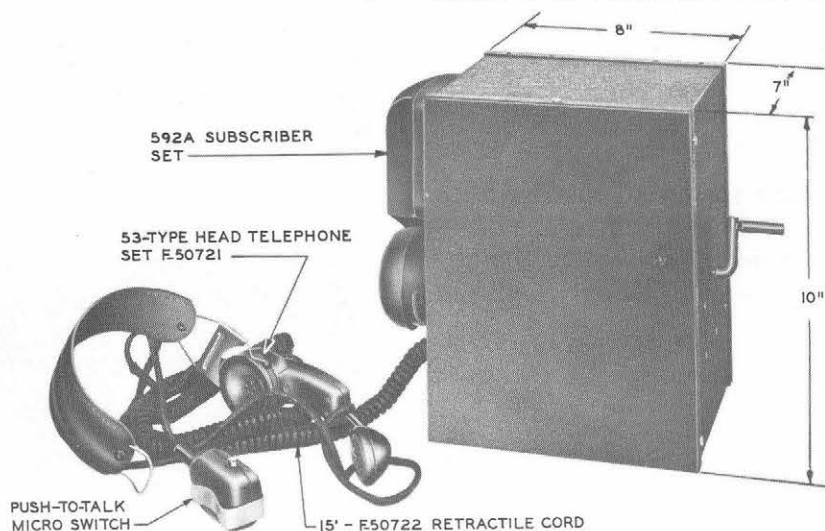

Fig. 1 — F-50682 Telephone Set
2.01 This set is used by ground observer posts for transmitting calls over private line facilities to the Air Force Filter Centers (see Fig. 1). It consists essentially of an 8- by 7-inch black finished, metal box in which is mounted a KS-13766 hand generator having a crank shaft which projects through the right side of the box; a 274L and a 274AJ retardation coil; a 181B induction coil; a 3B varistor; an F-50917, a 511D, and a 5BA capacitor; and two 10-141 Jones terminal strips.